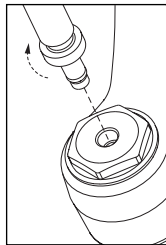

Fig.4
3. Using the RockShox air pump with the SID adapter, screw the pump/adaptor into the top cap (Fig. 4).